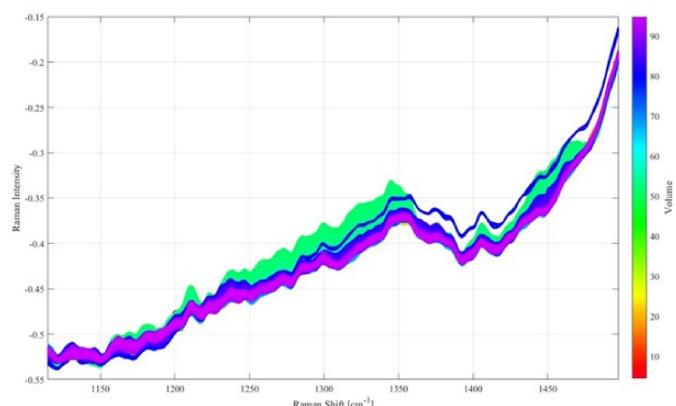

Fig. 3 (Left) Rubber band subtraction, 19-pt smoothing and SNV corrected spectra of the gel filtration process colored by progressive cumulative flow volume.
- Elution Tracking:** Raman identified BSA peak at ~50 mL and CytC at ~82 mL, matching UV chromatogram (Fig. 3).
Raman achieved high accuracy (errors: 0.109 mg/mL for BSA, 0.070 mg/mL for CytC), matched UV chromatogram, predicted recoveries of 93% and 89%, and showed strong specificity (Fig. 3: Elution spectra; Fig. 5: Predicted concentration profiles).